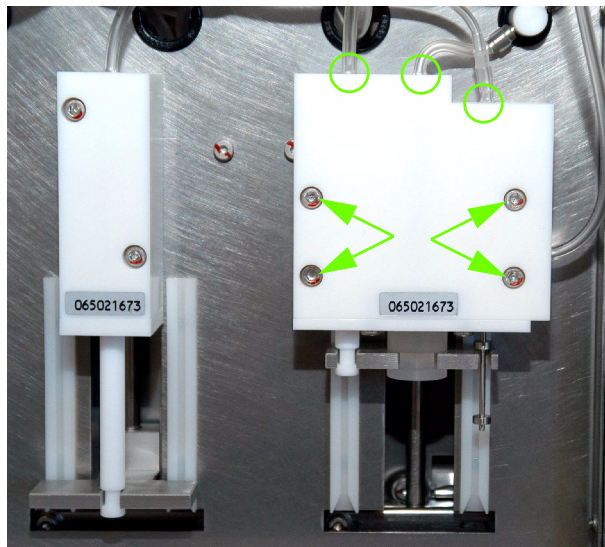

Fig.13: Liquid syringe screws
- ◆ Unscrew the 4 fixation screws and remove the liquid syringe (See "Fig.13: Liquid syringe screws, page 9").